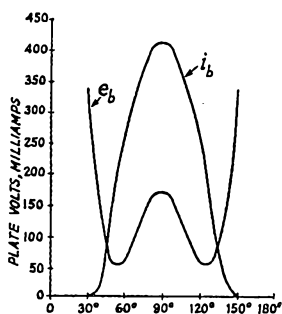
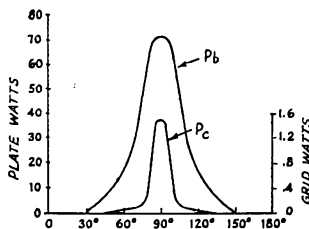

Fig. 5 — Curves plotted from the data of Table I.
Fig. 6 — Curves showing relative values of instantaneous grid and plate dissipation.
The power dissipated at the plate is the average plate current times the average plate voltage when the tube is conducting. In Fig. 5 we have plotted the shape of the plate current and plate voltage (voltage from plate to ground) from values taken from Table I. The instantaneous power dissipated at the plate is the product of the two curves and is plotted separately in Fig. 6. About the easiest way to find the average power is to count up the squares under the curve and divide by the length of the base line. This gives the average power over 180 degrees, and we divide by 2 to get the average over 360 degrees. We have 63 spaces and the base is 18 spaces long, so the average over 180 degrees is 3.5 spaces high. Each space vertically represents 5 watts, so the average power is 17.5 watts or, over 360 degrees it is 8.75 watts.
We haven't considered the grid power yet. Fig. 6 shows the curve of grid power — not the power wasted in the bias supply — for the operating range. The instantaneous values of grid voltage and current are shown in Table II. The results are $I_{av} = 10.8$ ma., power dissipated in the grid = 0.057 watt, driving power = (80) (0.0108) = 0.865 watt. Any old oscillator you pick out will supply this "flea-power."